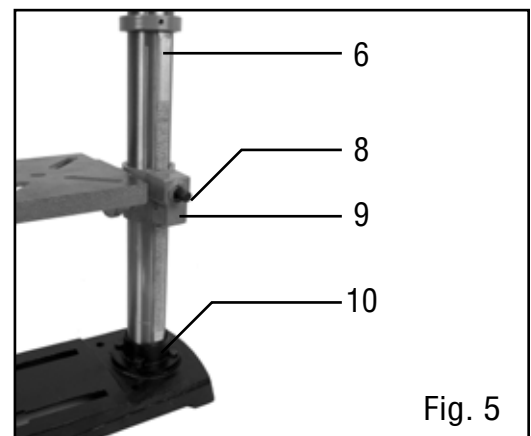

Fig. 5
5. Slide the table support and rack assembly (Fig. 5 - 6, 5 - 8, and 5 - 9) down together onto the column. Insert the bottom edge of the rack into the lip (Fig. 5 - 10) of the column support. Hold in this position until step 6 is complete.